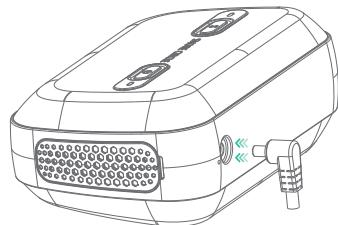

Figure 4-2 Power adapter
1) Insert the jack of the power adapter into the inlet on the back of the device, as shown in Figure 4-2.